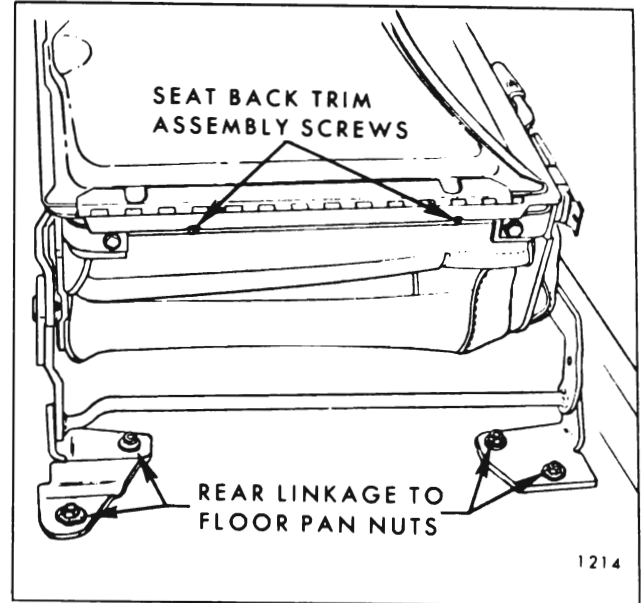

Fig. 15-69 —Folding Second Seat Rear Linkage
securing folding seat front and rear linkage to floor pan (Fig. 15-69 and 15-70).
3. Remove nut and washer assemblies securing front and rear linkage to floor pan (Fig. 15-69 and 15-70); then, remove seat assembly from body.
2. Remove seat back trim assembly attaching screws. (see Fig. 15-69).